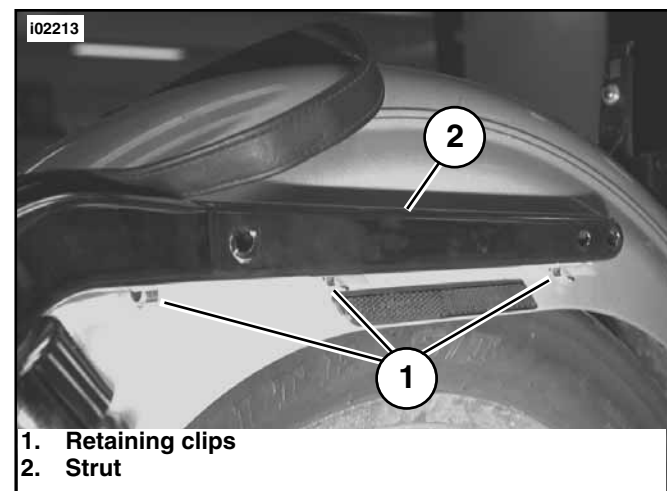

Figure 10. Install Wire Harness Retaining Clips
12. See Figure 10. Obtain three adhesive backed wire harness retaining clips (1)(Part Number 10102). Remove adhesive and install clips under fender strut (2) at locations as shown.